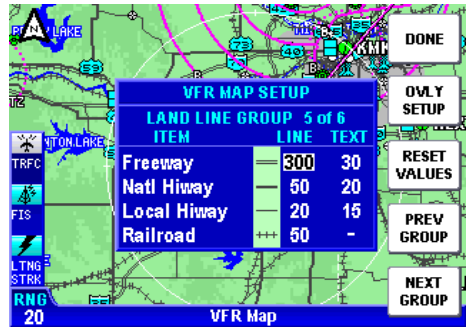

Figure 1-167
5. Press the **NEXT GROUP** Softkey to display the second **LAND LINE GROUP** Page as in Figure 1-167.